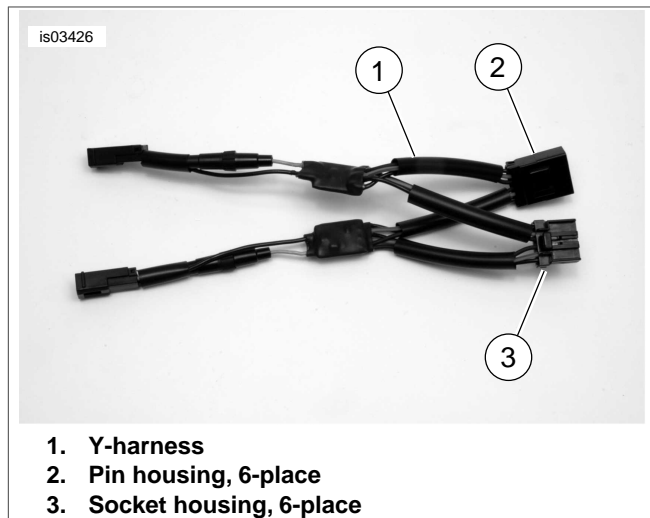

Figure 11. Y-Harness Assembly (6-Place Multilock)
5. See Figure 11. Install connectors on ends of combined Y-harness assemblies. Note wire color and cavity locations. Refer to MULTILOCK ELECTRICAL CONNECTORS in Service Manual.
4. See Figure 11. Install connectors on ends of combined Y-harness assemblies. Note wire color and cavity locations. Refer to MULTILOCK ELECTRICAL CONNECTORS in Service Manual.
4. See Figure 11. Install connectors on ends of combined Y-harness assemblies. Note wire color and cavity locations. Refer to **MULTILOCK ELECTRICAL CONNECTORS** in Service Manual.
5. See Figure 11. Install connectors on ends of combined Y-harness assemblies. Note wire color and cavity locations. Refer to **MULTILOCK ELECTRICAL CONNECTORS** in Service Manual.